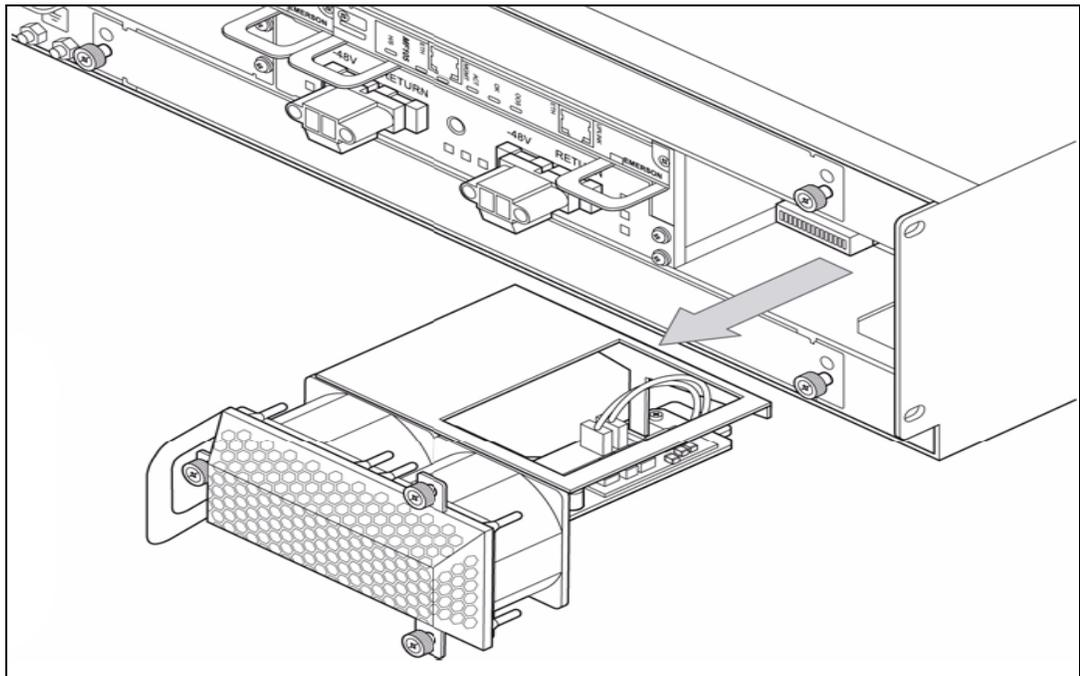

Figure 5.6 - Pulling Out the Fan Tray (Rear)
4. Grasp the handle and pull the tray carefully out of the shelf (see Figure 5.6).